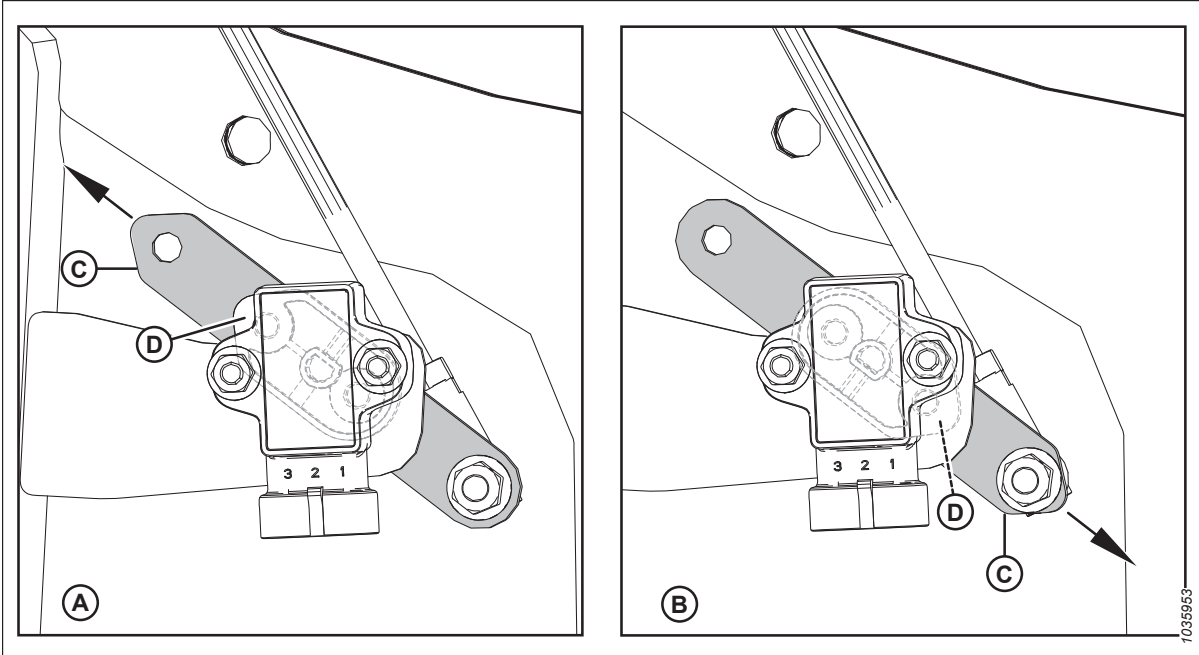

Figure 7.2: Sensor Arm/Pointer Configurations
- Ensure that sensor arm (C) and pointer (D) are configured properly for the header. For instructions, refer to Figure 7.2, page 336.